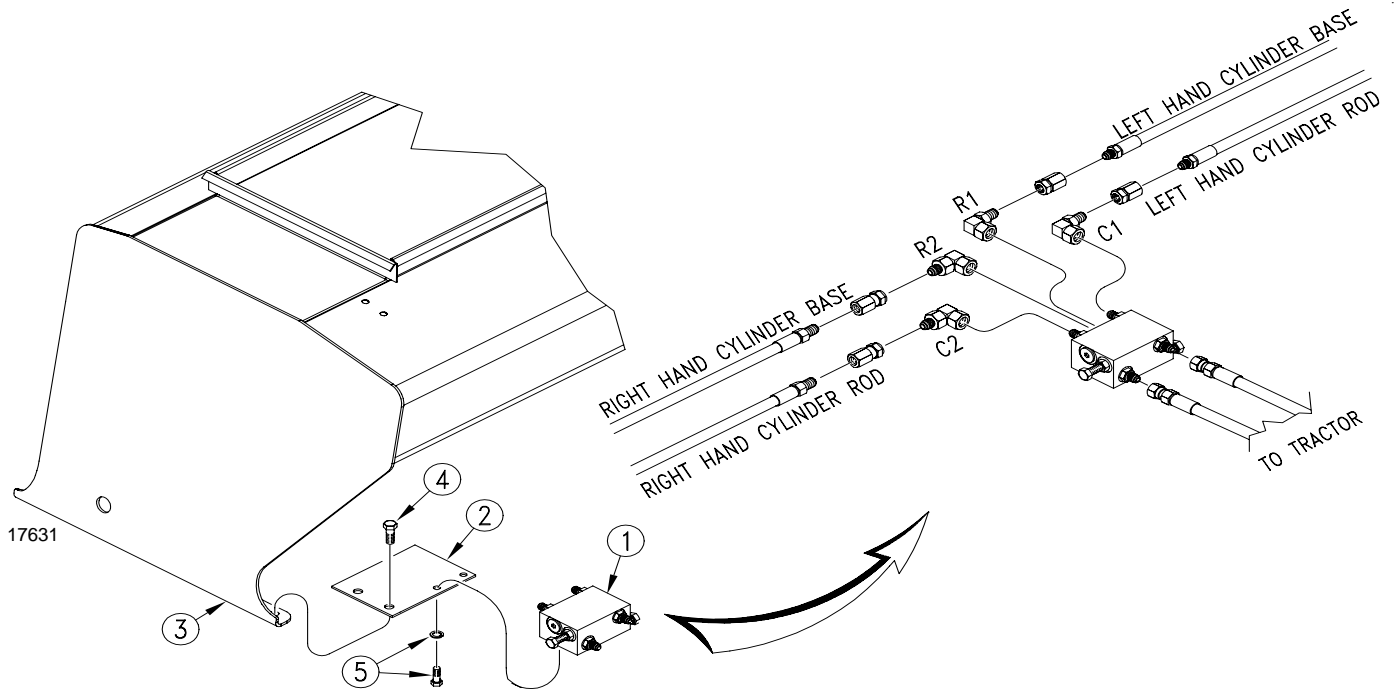

Figure 5
Refer to Figure 5.
1. Mount sequence valve (1) on drill using mounting plate (2). See Figure 5. Bolt plate to inside end of left-hand-box panel (3) using one 1/2-inch hex bolt (4).
2. Bolt valve to mounting plate with two 3/8-by-3/4-inch hex bolts and lock washers (5).
4. Use hoses provided to connect valve ports to cylinders. Refer to Figure 5 for port connections.